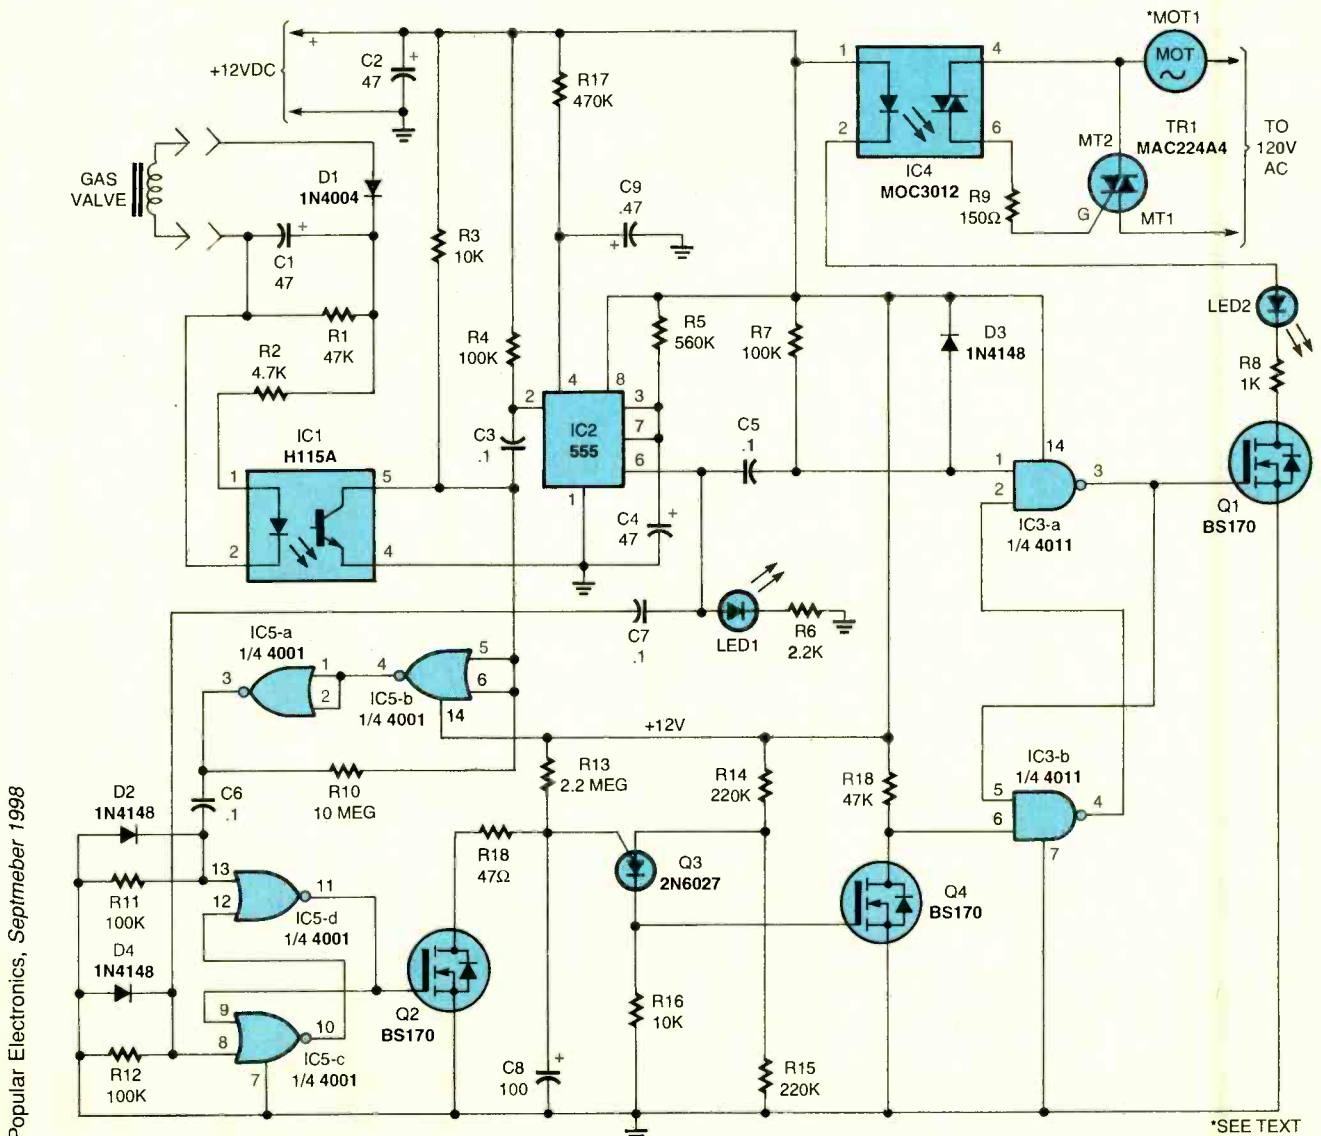

Fig. 2. The Automatic Blower Control is comprised of five ICs, three TMOs FETs, a PUT, a Triac, a pair of LEDs, several diodes, and assorted support components.
**About The Circuit.** A schematic diagram of the Automatic Blower Control is shown in Fig. 2. In that circuit, D1, C1, and R1 form a half-wave rectifier circuit that is fed from voltage (24 volts AC) present across the gas valve when the burner is operating. When the gas valve opens, C1 charges to about 35 volts DC, and when it closes, that voltage falls to zero.